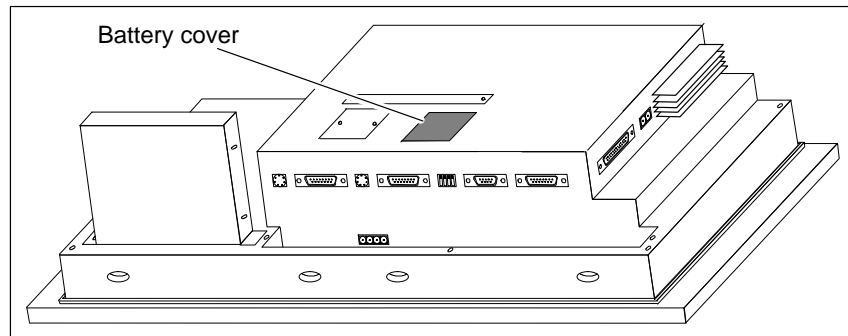

Figure 6-8 Position of battery cover
1. If you have installed a direct key module, you must unscrew it (Section 5.2.1) to gain access to the battery cover (refer to Figure 6-8).